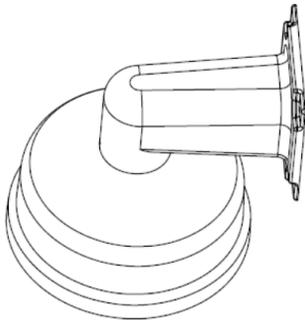

Figure 13: Attach wall mount cap to the wall mount
2. Connect wall mount cap and wall mount as shown in Figure 13.
2. Connect the wall mount cap and wall mount as shown in Figure 13.